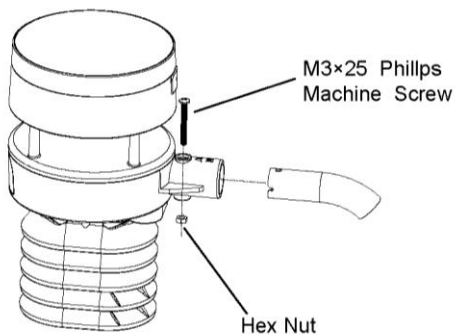

Figure 4
2. Attaching Arm to Ultrasonic Sensor as Figure 4.